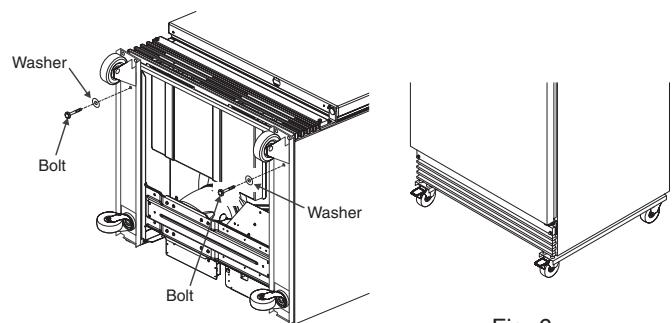

Fig. 6
- Repeat the same procedure on the left hand side with the other swivel caster and caster rail assembly. Fig. 6
- Align bolt with the hole in the front foot of the right hand base rail. Thread bolt into the hole and tighten securely using a $\frac{1}{2}$ inch end wrench or socket wrench (see Fig. 6).